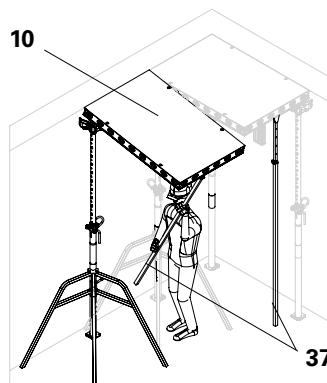

Fig. D2.06
1. Erect the other DP panels (**10**) in the same way. (Fig. D2.06)